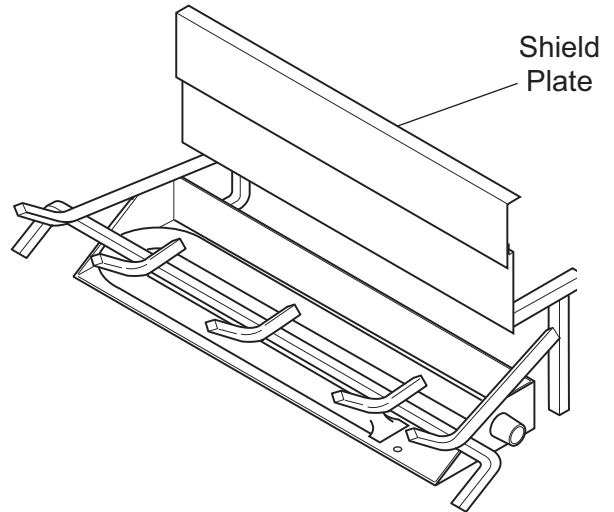

Figure 76 - Sliding Shield Plate Down Back of Burner Pan
1. Slide shield plate down back of burner pan. *See Figure 76.*